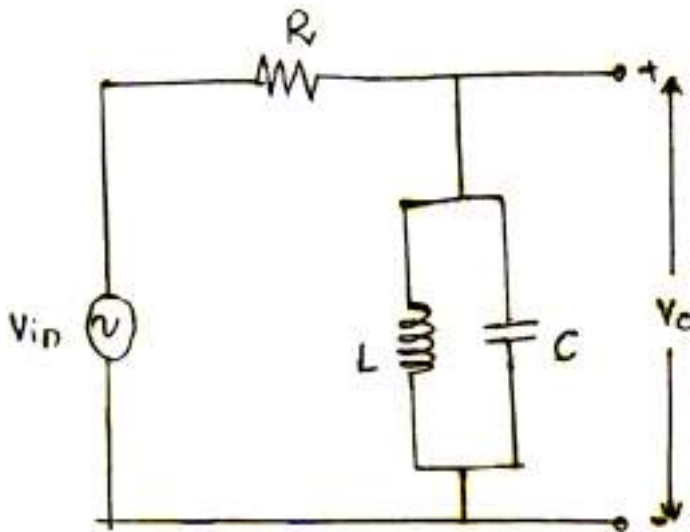

Figure 5 Q. 11(a)
11. a) For the parallel LC network shown in Figure 5, find the transfer function $\frac{V_o}{I_{in}}$ and compute the sensitivities of k , ω_p , Q_p , w.r.t. to the passive elements R , L and C . 10